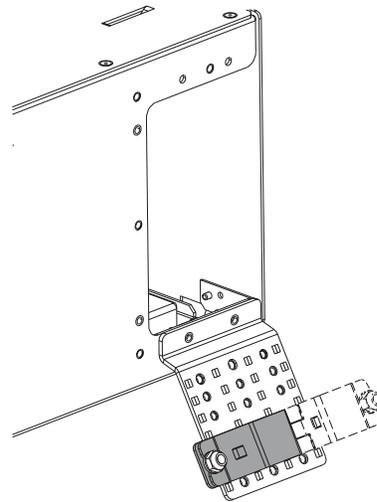

Figure 7
**Step 3:** If installing indoor cable, remove appropriate cable entry plate as shown in Figure 7.